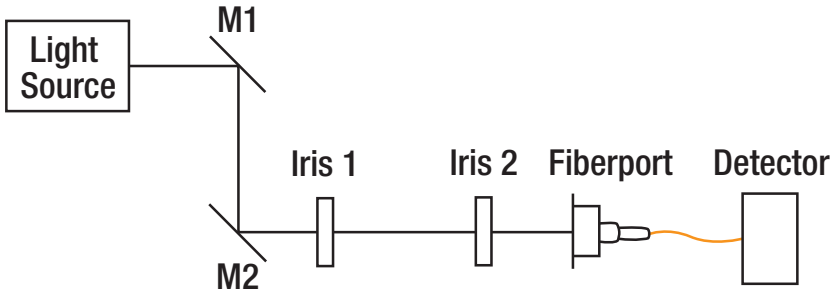

Figure 6 Setup for Coupling with the FiberPort
- a. First, place two irises (set to the same height off the table) as shown in Figure 6 (above).
3. Place the FiberPort after Iris 2, as shown in Figure 6, shown above. Centering the input beam on the lens aperture of the FiberPort can be accomplished by affixing a target to the tilt plate in front of the lens.